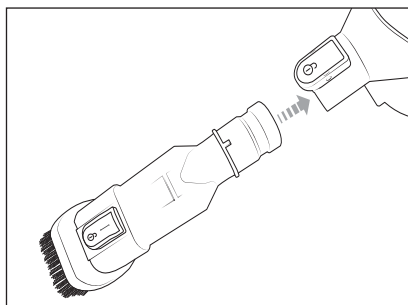

Fig. 8
- ◆ Push the 2-in-1 combination brush **8** onto the suction opening of the appliance until it clicks into place (see Fig. 8).